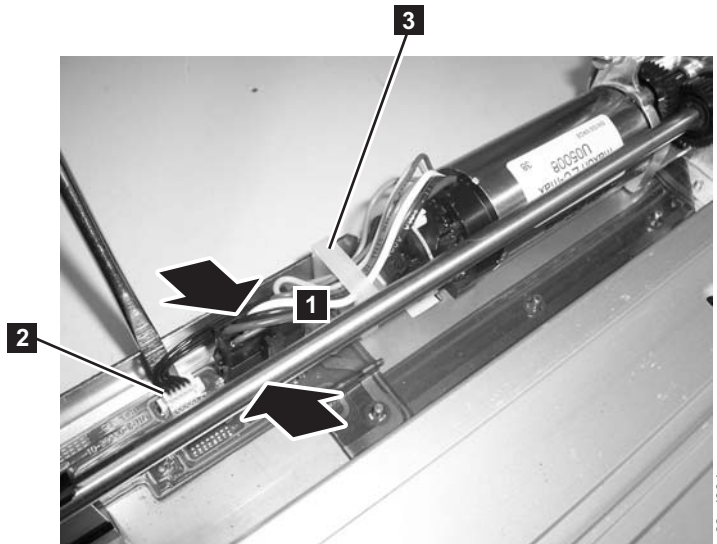

Figure 8-61. Y motor connector
3. Connect the small white connector (**2** in Figure 8-61 on page 8-64).
4. Connect the large black connector. See Figure 8-61 on page 8-64.
- a. Pinch the latch on the cable connector (**1** in Figure 8-61).